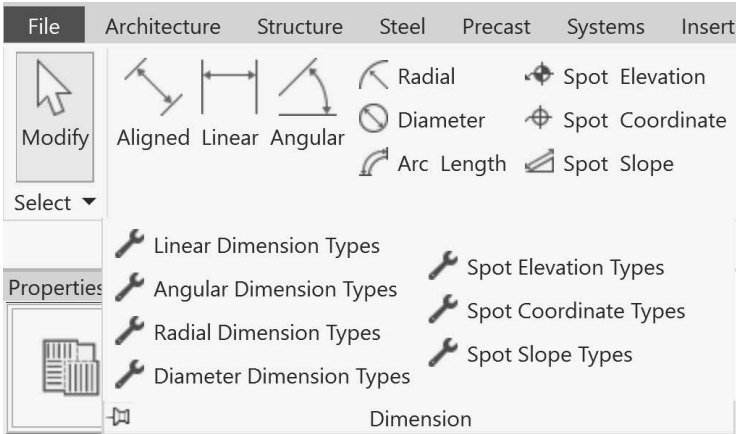

Figure 1-63
- In the *Annotate* tab>*Dimension* panel, expand the *Dimension* panel title (as shown in Figure 1-63) and click the dimension type with the  icon next to it that you want to create.